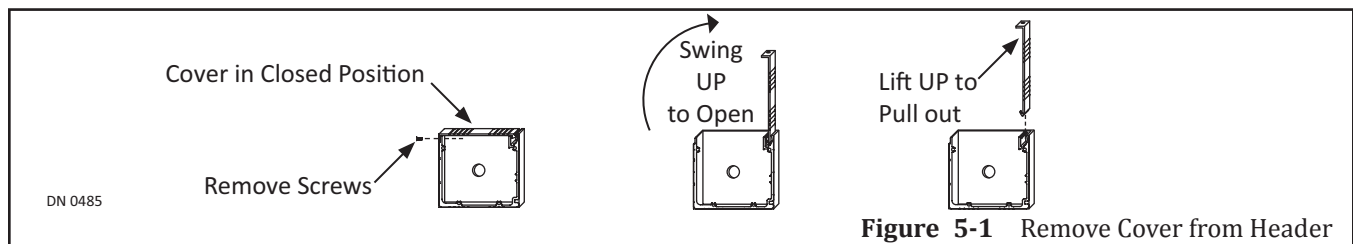

Figure 5-1 Remove Cover from Header
5. Remove Cover by lifting it up from Header, and then pulling it out. Please see Figure 5-1.